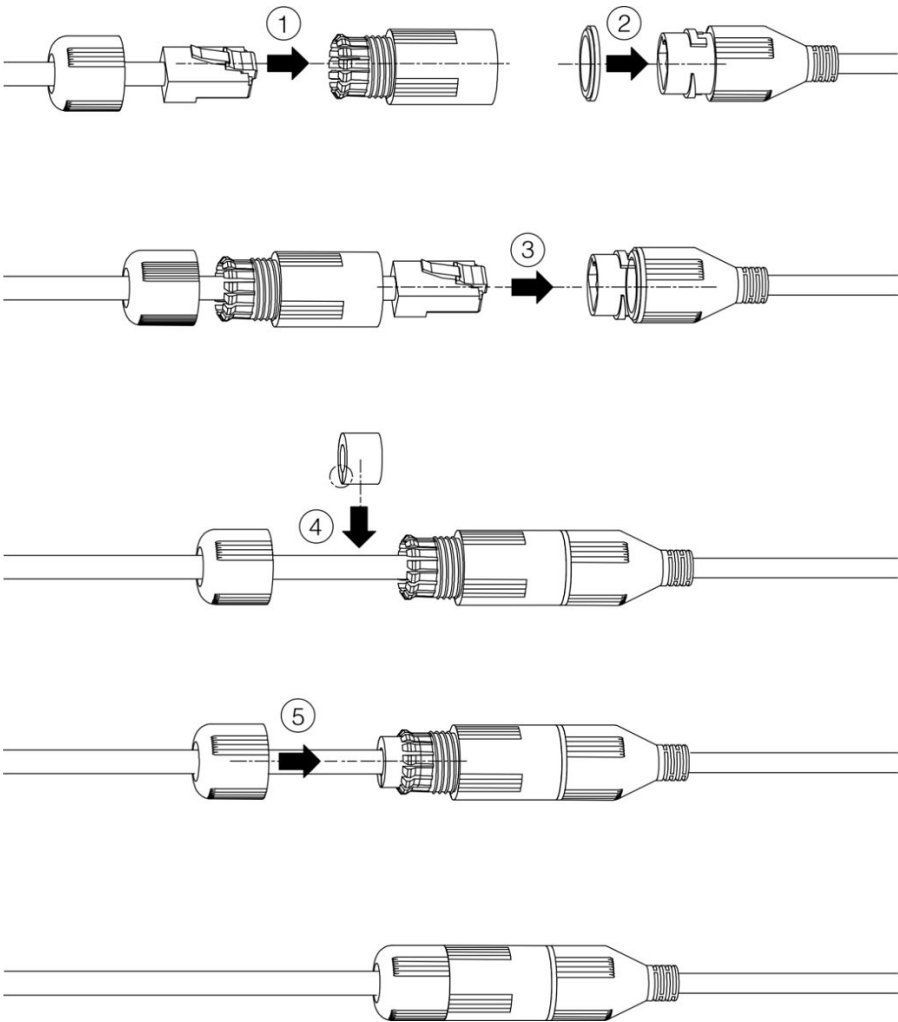

Figure 2-7
**Waterproof connector installation for network port (if applicable):** For a device with a plastic RJ45 enclosure, see figure 2-7.